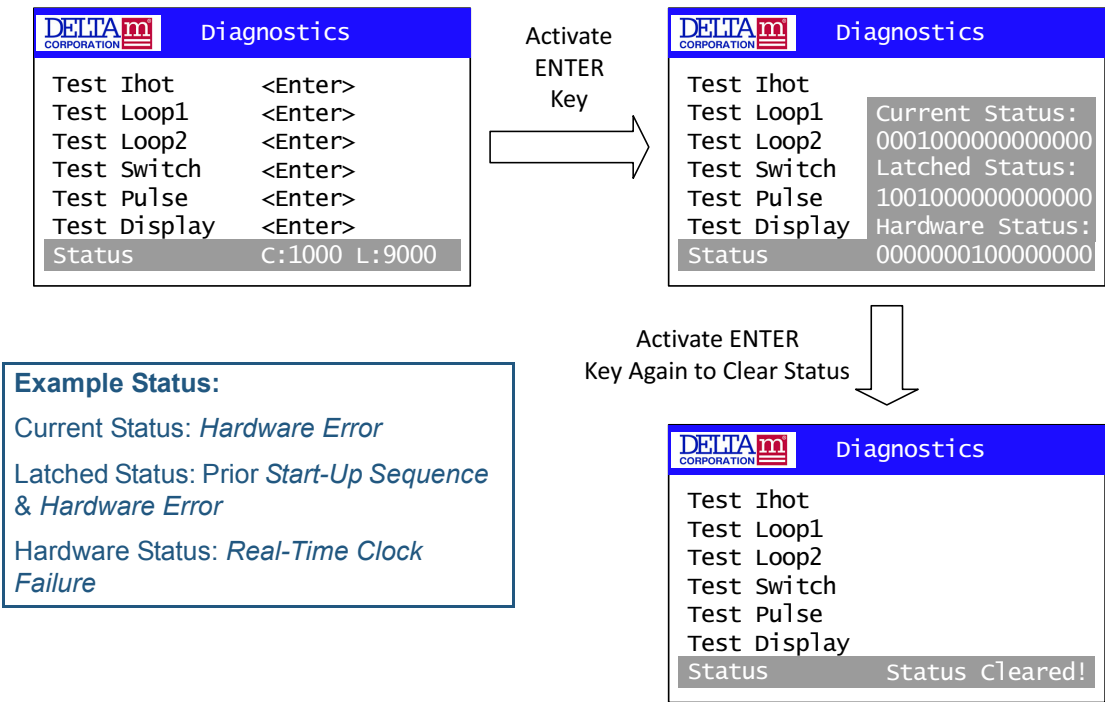

FIGURE 3-5. Example status display
The status can be accessed via the local interface through the Diagnostics menu (see page 38) of the Configuration Mode. The Current (C) and Latched (L) Status registers are first summarized as *hexidecimal* values in the Diagnostics menu (hexidecimal values 1000 and 9000 in the example Figure 3-5 below).
The example Figure 3-5 below illustrates how the display changes as the ENTER key is activated with the Status line selected in the Diagnostics menu. The *first* activation of ENTER breaks the hexadecimal display (i.e. C:1000 L:9000) into individual status bits that are either ON=1 or OFF=0. The *second* activation of the ENTER key clears the status registers. The BACK key may also be used to exit the detailed bit Status display without clearing the registers.
The following tables provide the bit mapping for the Current, Latched, and Hardware Status registers as well as cross-referencing the applicable Modbus-compatible register(s). The bits are numbered starting with bit 1 which is the Least Significant Bit (LSB) — the rightmost bit in the Status display as illustrated in Figure 3-5.